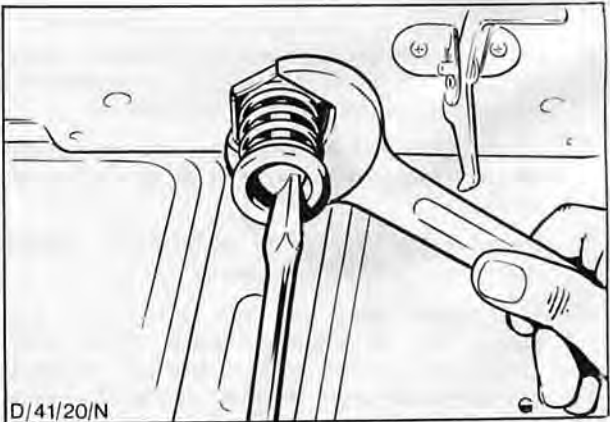

Fig. 9. Method of adjusting typical hood lock striker assembly
1. Open hood, fit fender covers, slacken locknut, unscrew and remove striker post from underside of hood, Fig. 9.